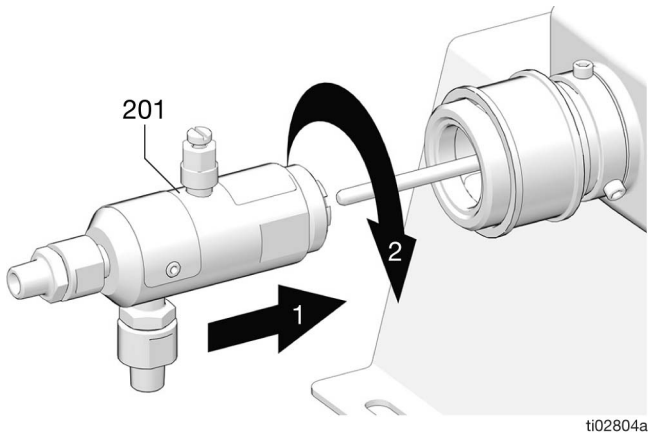

FIG. 25:
3. Lubricate the plunger (213).
4. Slide the adapter (224) onto the plunger (213) and insert the three screws (228).
5. Verify the set screws (228) are in the groove of the drive adapter (224) and torque the set screws to 20-30 in-lb (2.3 - 3.4 N•m). (FIG. 25).